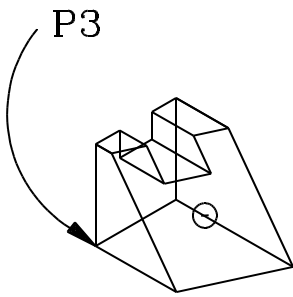
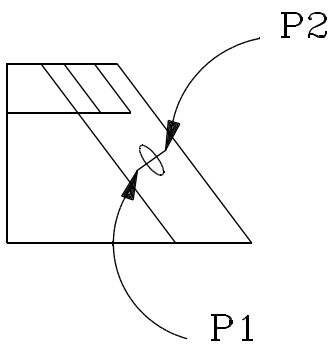

Figure 11
Figure 12
36. Click on points P1, P2 (the start and end points of the line through the circle axis, Figure 12), and P3 (The lower left rear corner of the block in the isometric view, Figure 11).
39. Click on points P1, P2, and P3 as shown in Figures 11 and 12.